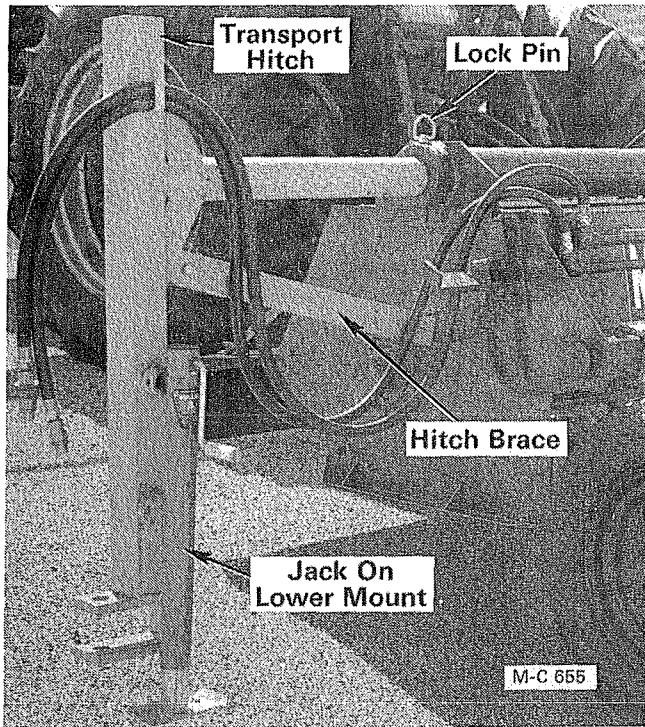

Figure 15G
3. Pull the transport hitch assembly out and install the lock pin, see Figure 15G. Secure the lock pin with the hair pin clip. Connect the transport hitch brace to the Shredder.
4. Move the jack on the end transport hitch down to the lower jack mount, see Figure 15G.